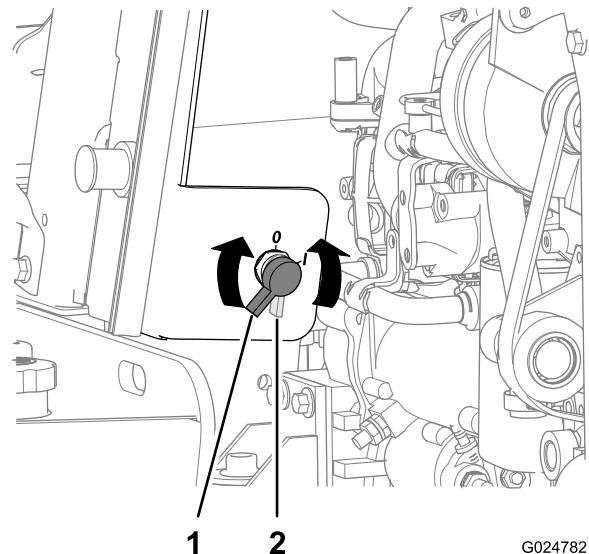

Figure 85
2. Connect the positive lead of the battery charger to the positive-battery post (Figure 85).
2. Rotate the battery-disconnect switch counterclockwise to the Off position (Figure 85).
8. Rotate the battery-disconnect switch clockwise to the On position (Figure 85).